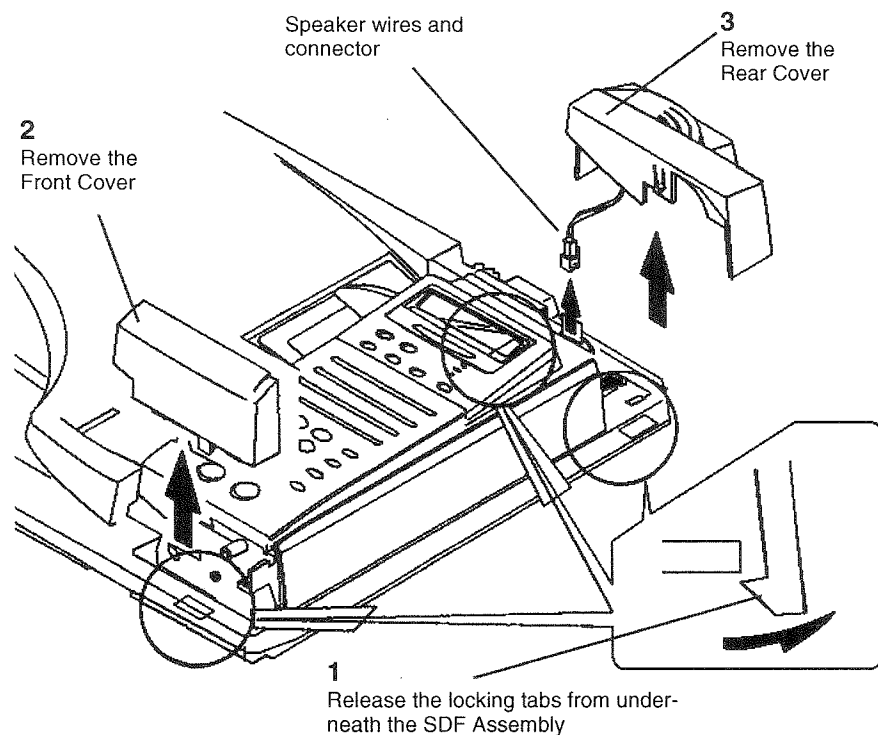

Figure 1 Removing the Front and Rear Covers
1. (Figure 1) Remove the Front Cover and the Rear Cover.